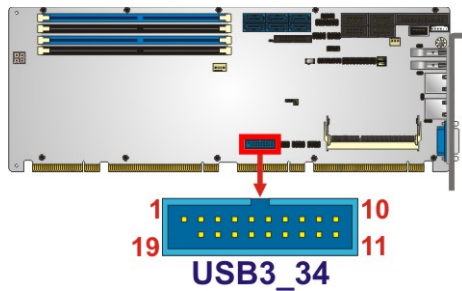

Figure 3-30: USB 3.1 Gen 1 Connector Location
- CN Location:** See **Figure 3-30**